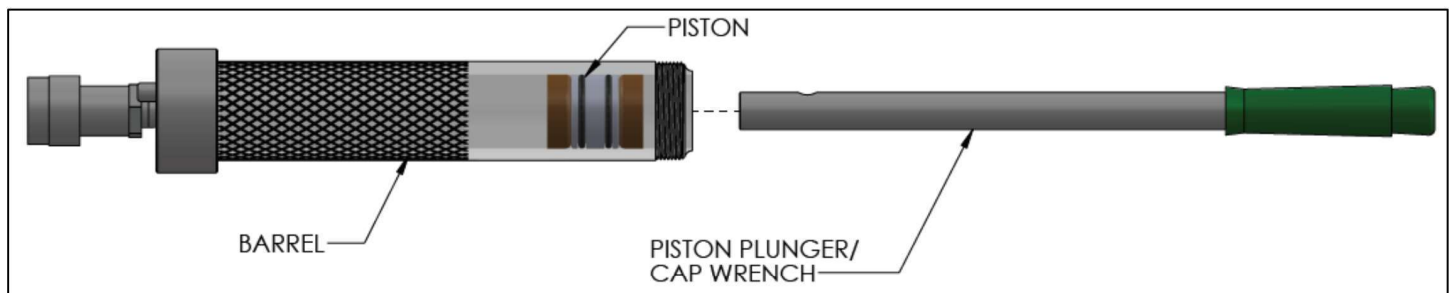

Figure 5
- 2.) To insert sealant into a sealant barrel, make sure the piston is at the bottom of the barrel. Figure 5 shows how to push the piston into the barrel. The connected hydraulic pump needs to be in the release position to allow oil to flow back into the pump. The piston is a very tight fit. A hammer may be needed to drive the piston back. If the supplied piston plunger is lost, a piece of pipe or handle of a hammer may be used to drive the piston back.